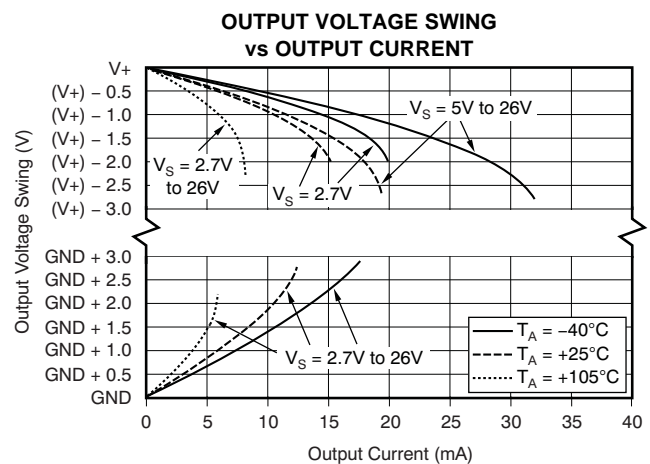

Figure 6.
(2) See Typical Characteristic curve, *Output Voltage Swing vs Output Current* (Figure 6).